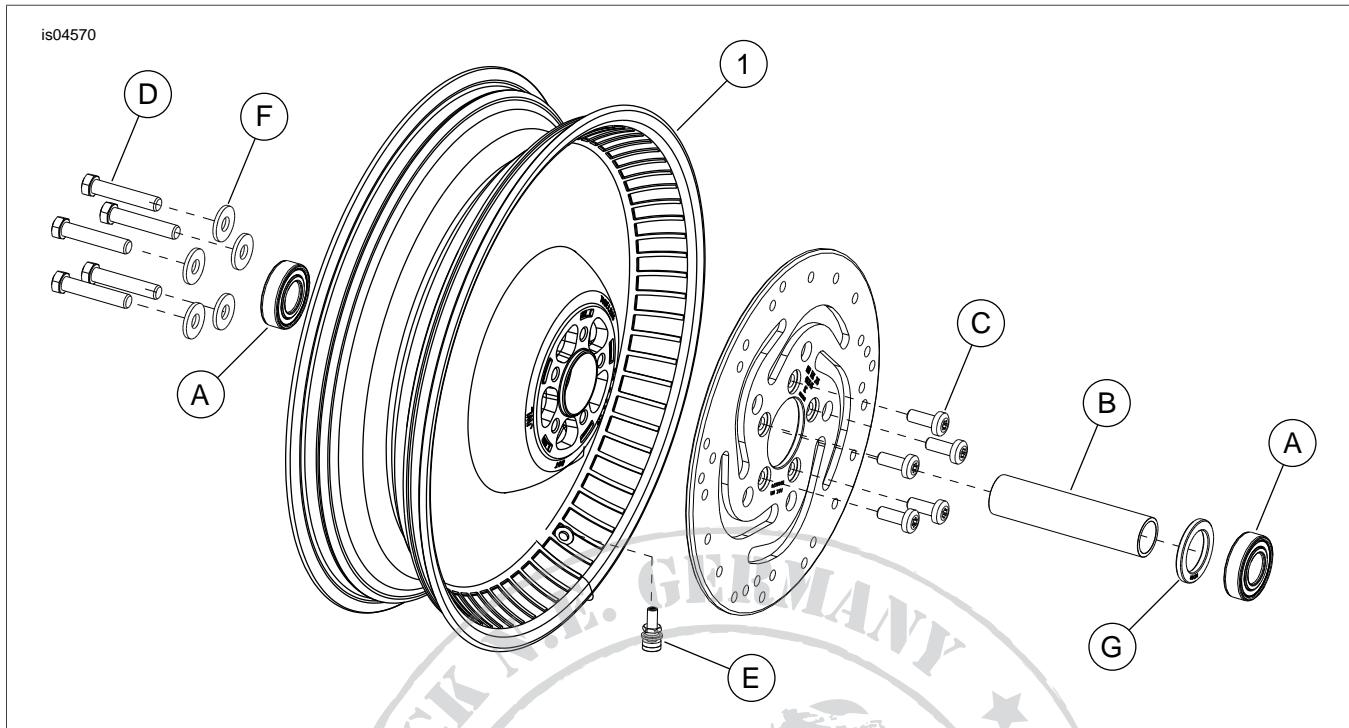

Figure 1. Service Parts: Rear Deuce Wheels
See Figure 1 and Service Parts Tables.
2. See Figure 1. Install valve stem assembly (E) on wheel. Refer to TIRES in Service Manual.